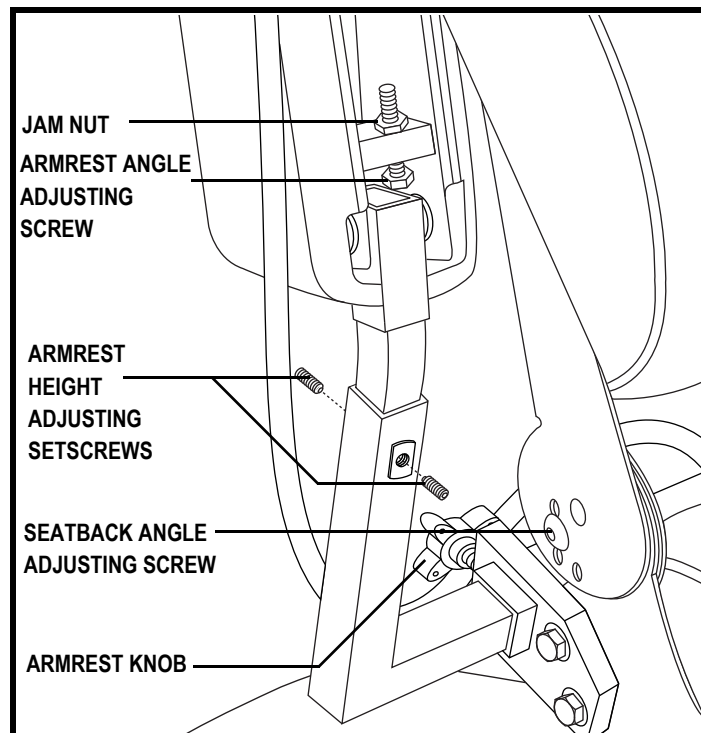

Figure 17. Seatback and Armrest Adjustments
1. Remove the adjustment screws on both seat hinges. See figure 17.
1. Locate the two armrest knobs on each side of the armrest receiver bracket. See figure 17.
2. Loosen the jam nut. See figure 17.